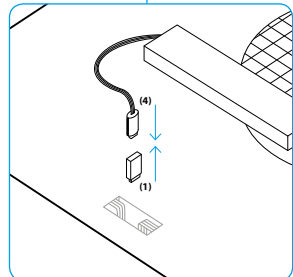

Abb. 3 Einfache Montage des Receivers
Fig. 3 Simple mounting of the Receiver. The receiver is installed easily without extra tools. Remove the Stick (1) at the top side of the hood and insert the Receiver (4).